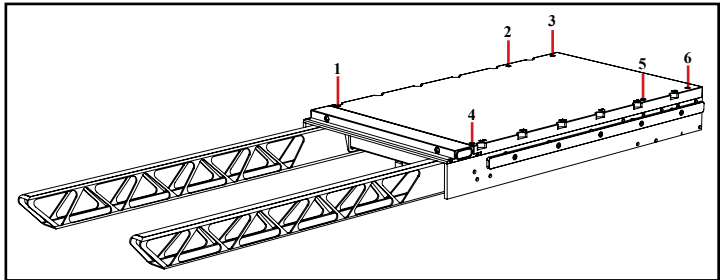

Fig. 26
1. Before installation of the kVue, remove the back panel, by removing the 6 screws (Fig 26). Place screws aside for later use.